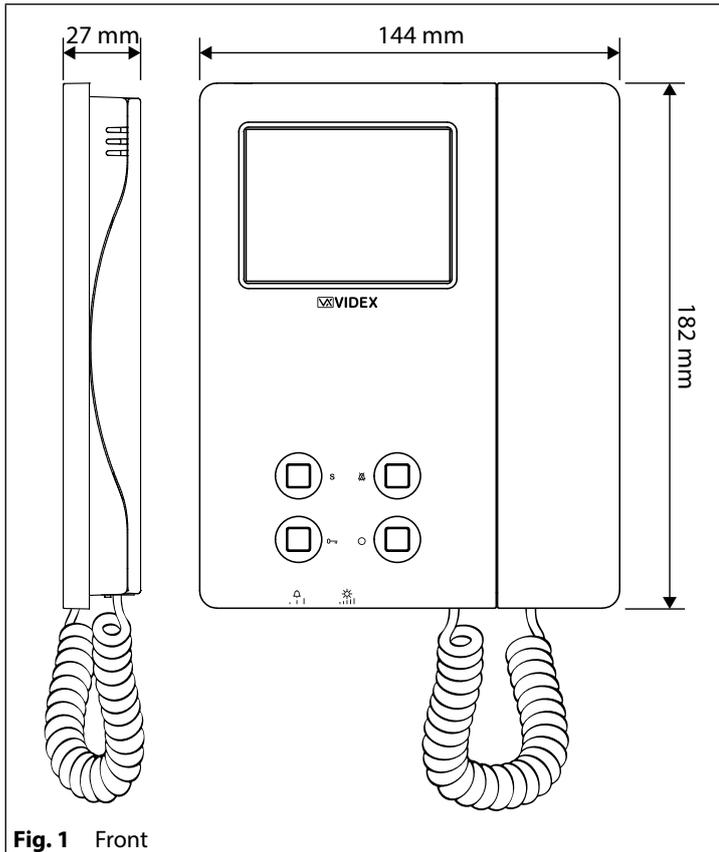
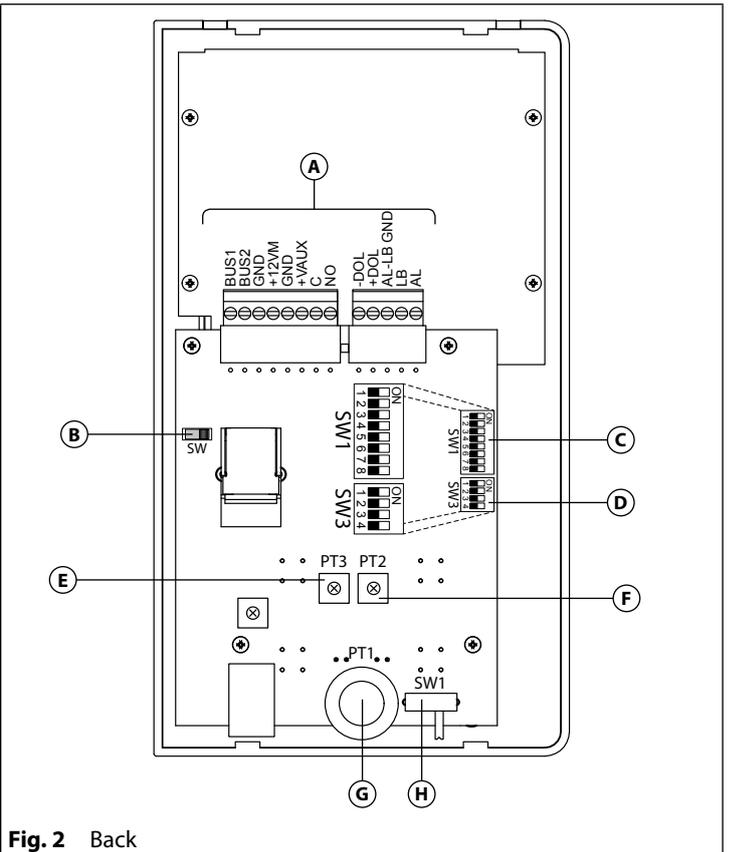

Fig. 1 Front
Fig. 2 Back
- Place the surface box against the wall (165-170cm between the top of the box and the floor level as shown in **Fig. 1**) and mark the fixing holes for the wall plugs and the hole for the cables **(E)** (**fig. 2**). Observe the orientation of the box with the hinge on the left;
- Protect the module support frame fixing holes from dust then embed the back box into the wall (165-170cm between the top of the box and the floor level as shown on the **Fig. 1**) feeding the cables **(E)** (**Fig. 2**) through a previously opened hole in the box. Observe the direction of the box ensuring the hinge is on the left and take care that the box profile is in line with the finished wall profile;